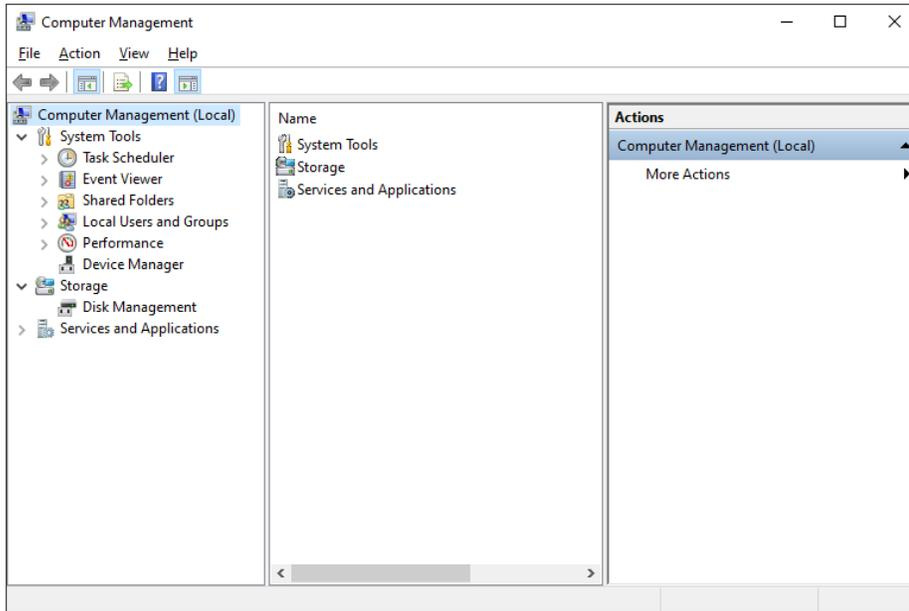

Figure 3. Computer Management Screen
- The **Computer Management** screen shown in Figure 3 displays.